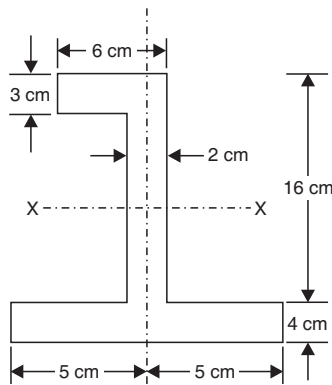

Fig. 5.37
6. Find the moment of inertia about the centroidal axis  $XX$  for the lamina shown in Fig. 5.37. [Ans.  $I_{xx} = 4015.38 \text{ cm}^4$ ]